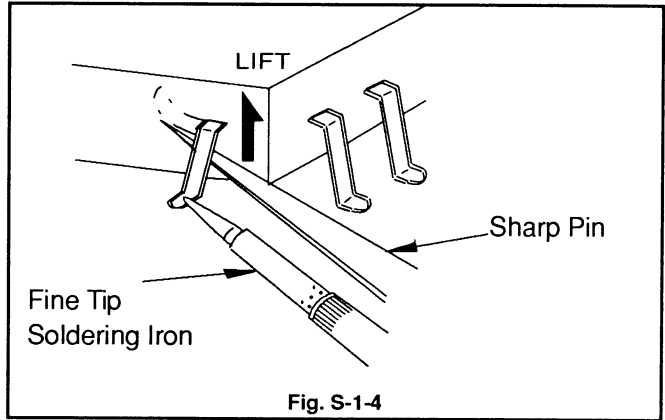

Fig. S-1-4
- (2)Lift each lead of the flat pack-IC upward one by one, using a sharp pin or wire to which solder will not adhere (iron wire). When heating the pins, use a fine tip soldering iron or a hot air desoldering machine. (Fig. S-1-4)